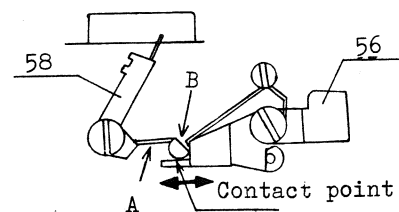

Fig 24
When it is not just at the center, bend the part A to have it come to the center. (Fig. 24) Focus at 1 meter (3.3 feet) (A) or 2 meter (7 feet) with a focusing glass (K204010), view the finder and make sure if the needle is at the nose of A or 2 meter (7 feet). When it is out of place, bend the part B for adjustment. (Fig. 24)